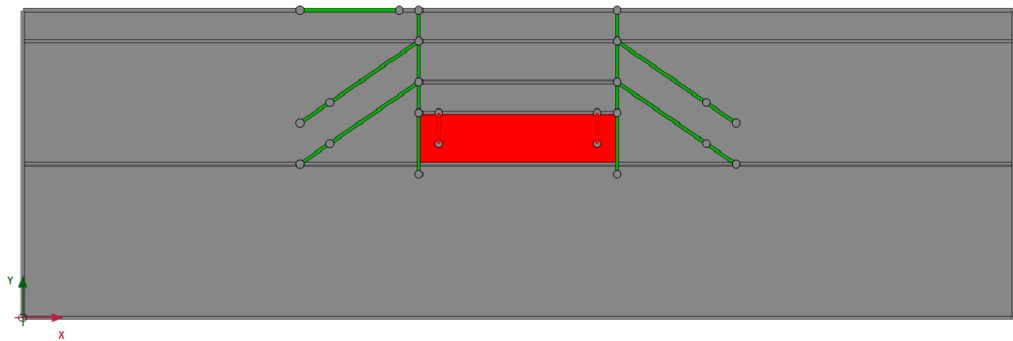

Figure 10–1: Indication of the local refinement of the mesh in the model
- 2 Select the cluster and two wells as shown in the Figure 10–1 \(p. 167\) . In **Selection Explorer** specify a **Coarseness factor** of 0.25.